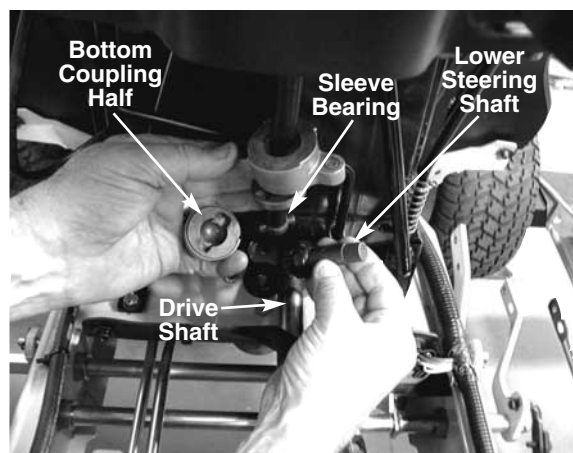

FIGURE 3.
4. Raise the upper steering shaft. See figure 3.
5. Remove the lower steering shaft from the hydraulic steering pump. See figure 3.